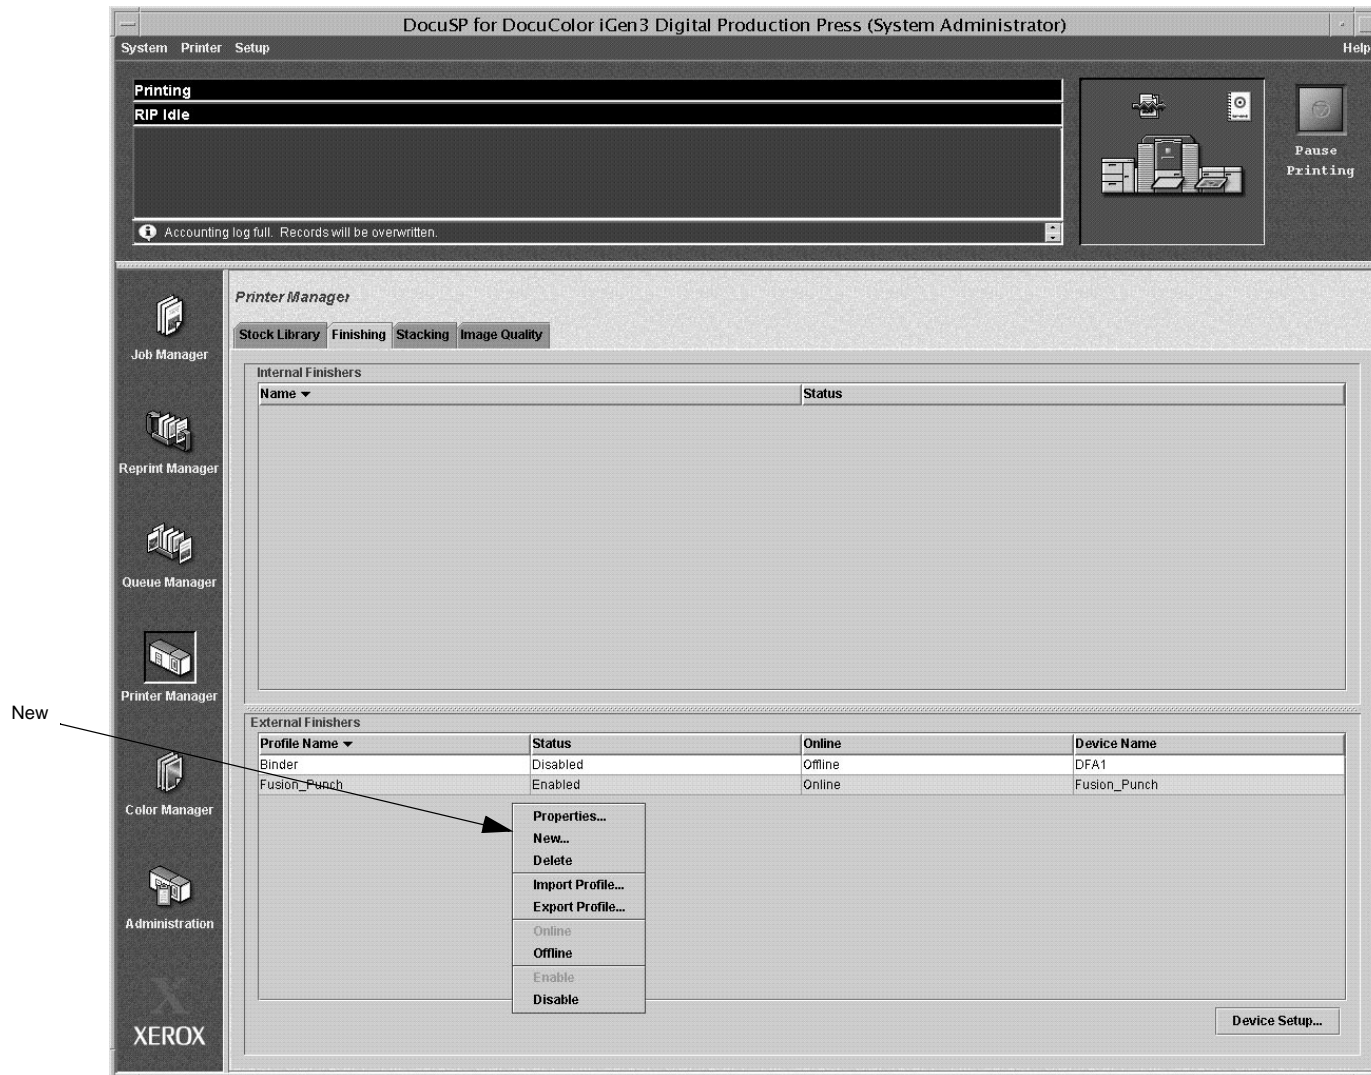

Figure 6-40 The External Finisher Drop Down List
- Right click in a blank part of the **External Finishers** box at the bottom of the **Finishing** Tab Screen. Then, select **New** from the drop down list, as shown in Figure 6-40.